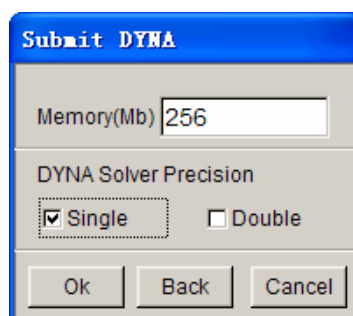

Figure 3.8.2 Select Memory dialog window
- The SUBMIT DYNA dialog window, as illustrated in Figure 3.8.2 appears. The dialog window enables user to specify the memory and type of LS- DYNA solver, either Single or Double precision. The default memory is set as 256MB. User can assign different memory value according to model size.